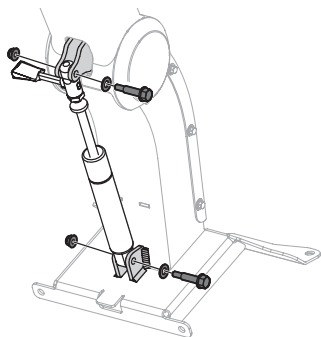

Fig. 8
- While holding steering wheel column in a raised position, use other hand to place tilt locking cylinder, aligning holes in top and bottom of cylinder with holes in cylinder mounting plates on the underside of the steering wheel column and the top of the column support bracket (Fig. 8).
- Working from right to left, install flat washers and shoulder screws through holes aligned in Step 4 and secure with hex flange lock nuts. Torque shoulder screws to 120-144 in-lbs (14-16 N-m) (Fig. 8).